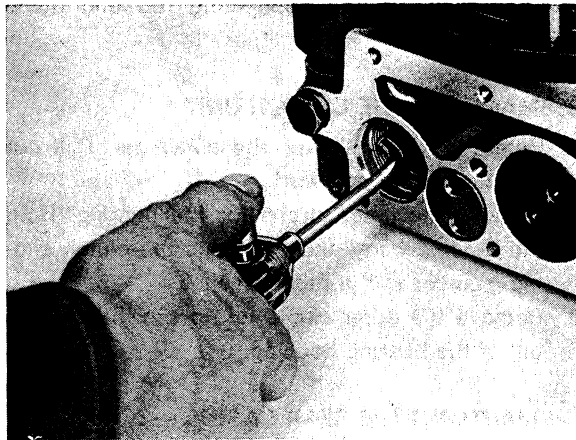

Fig. 4-38. Blowing the orifice nozzle clean
4. Before fitting the parts of the relief valve, it may be suitable to blow the orifice nozzle clean with compressed air, see Fig. 4-38.
The orifice nozzle is accessible after the cylinder of the relief valve has been removed according to above. Blow the orifice nozzle clean with compressed air, see Fig. 4-38.